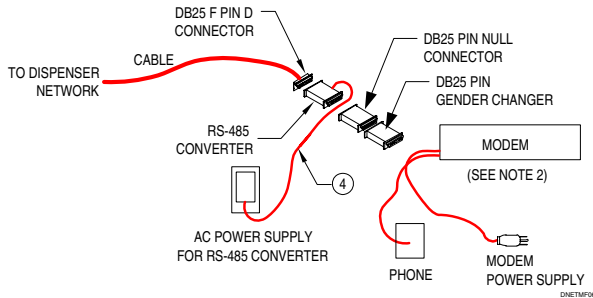

Figure 6. Network to Remote PC Connection Using Converter and Modem
1. Refer to Figure 6. Create the dispenser network as explained above, but rather than connecting the RS-232 side of the RS-485 converter to the PC's serial port, connect it to a 25-pin Null Modem and then to a 25-pin male-to-male gender changer (both items are commercially available).